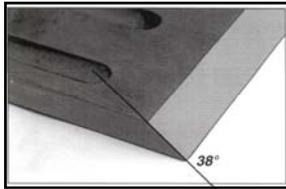

Figure 1A: Sharpening angle of rotor knife. (38 degrees on BX60— 32 degrees on BX40)
5. Be sure to maintain a 38 degree bevel on BX60 knives (32 degree bevel on BX40) on knife cutting edges. (See Figure 1A). When sharpening knives be sure to remove the same amount from each knife or else rotor can be thrown off balance.